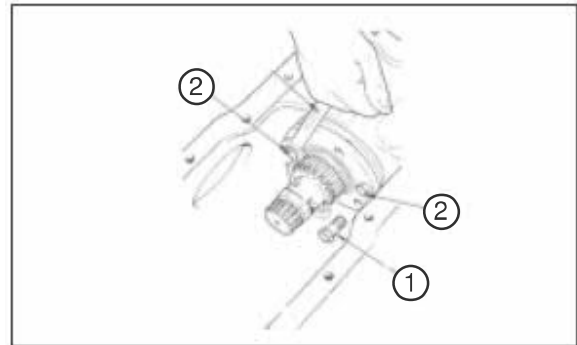

Fig.6
1. Remove the six mounting bolts. (Item 1 in Fig. 6).
2. Screw one of the bolts into each of the two tapped holes. (Item 2 in Fig. 6).